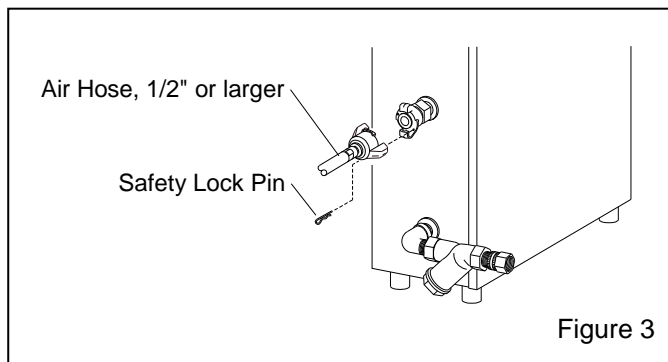

Figure 3
## 2.2 Connect Air Hose, Figure 3
**2.2.1** Attach a 1/2" ID or larger air hose to the 2-claw coupling as shown in Figure 3. NOTE: If the user-supplied air supply hose has a different type of coupling, replace the coupling on the injector with one that is compatible with the hose. Make sure there are no reducers or restrictions that reduce the volume of air (21 cfm at 100 psi) required for the pump.